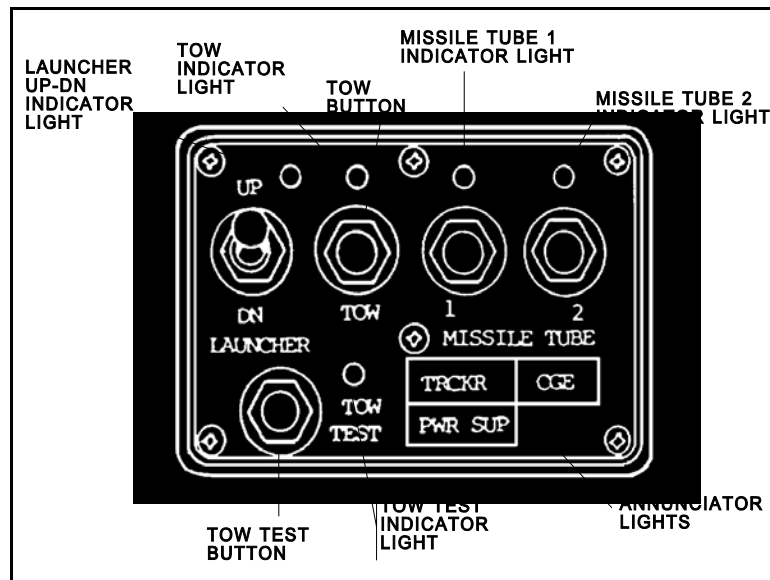

Figure 3. M2 TOW control box.
- d. Raise the TOW launcher (Figure 3, page 3-230).
- (1) Move the launcher UP-DN switch to UP.
- (2) Depress the gunner's palm switches.